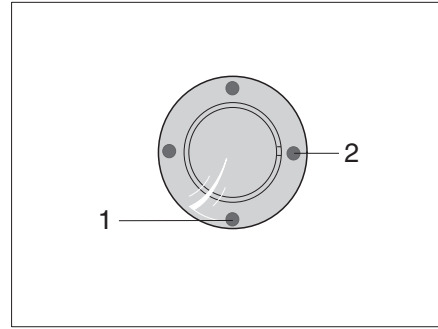
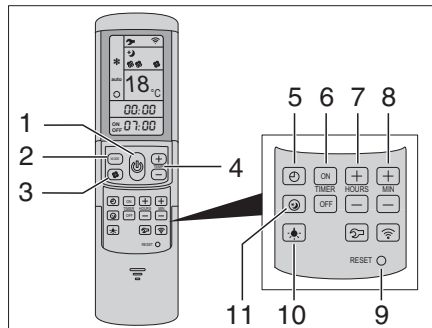

Fig. 336 Infrared receiver/function display
Fig. 337 Remote control
The air conditioning unit is located on the roof of the vehicle. The remote control (Fig. 337) for the air conditioning unit is located in the kitchen area.
The air conditioning unit is ready to operate. The blue LED (Fig. 336,1) lights up.
- To switch on press the button (Fig. 337,1) on the remote control. The blue LED (Fig. 336,1) flashes.
- Set the desired operating mode using the MODE button (Fig. 337,2).
- If necessary, set the desired fan level by using the button (Fig. 337,3) and the room temperature by using the buttons (Fig. 337,4).
When the temperature set on the remote control is reached, the blue LED (Fig. 336,1) goes out, the compressor switches off and the circulation fan continues to run.
- To switch off press the button (Fig. 337,1) on the remote control again.
- To carry out programming, switch on the air conditioning unit by using the button (Fig. 337,1) on the remote control.
- Set the desired operating mode by using the button (Fig. 337,2) and the room temperature by using the buttons (Fig. 337,4).
- Use the buttons (Fig. 337,6) to select the desired function:
- Use the buttons (Fig. 337,7 and 8) to select the desired switching time (15 minutes to 24 hours).
- Confirm the setting with the buttons "ON" or "OFF" (Fig. 337,6).